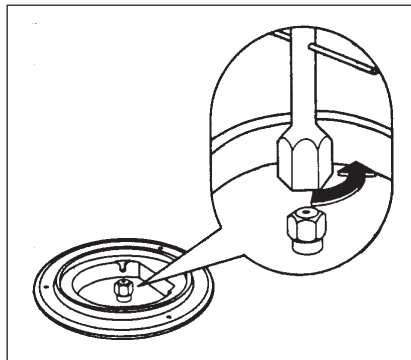

Fig. 1
- With the aid of a 7mm box spanner the burner injectors can then be unscrewed and replaced by the appropriate Natural gas injectors (Fig.1).